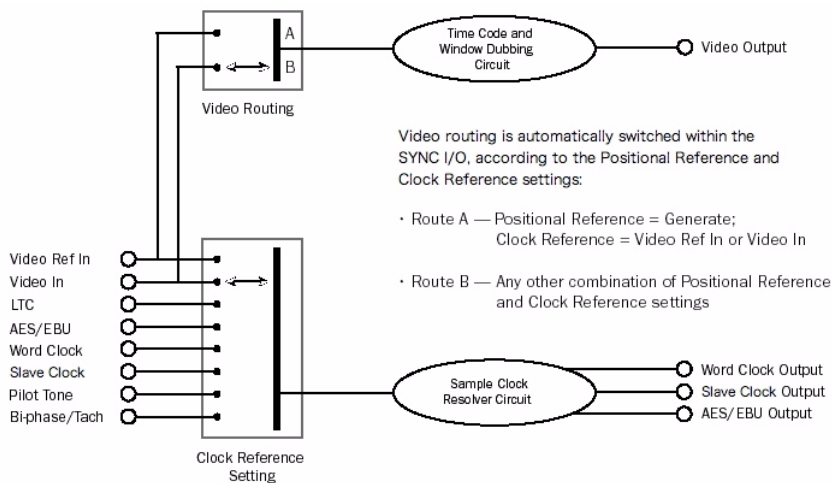

Figure 3. Video Input Flow diagram
Unlike selecting a video input to use for Clock Reference, input selection for VITC and character generator functions follows a simple rule. This rule is explained in the following sections and in Figure 3 on page 70.
**Video Ref** If the Clock Reference is one of the two video inputs, *and* the Positional Reference is Generate, then VITC and character generator functions are applied to the video arriving at the Video Ref input connector. This helps you avoid re-patching video cables whenever you want to stripe a videotape with your reference black-burst or color bars, along with internally generated time addresses for VITC (and/or LTC, and/or CG dub window). In Figure 3 on page 70, this scenario is identical to “Route A.”
**Video In** For all other combinations of Clock Reference and Positional Reference, VITC and character generator functions are applied to the video signal arriving at the Video In connector. In this way, the SYNC peripheral can read VITC from your videotape, or add VITC with or without character generation (window burn) while dubbing to a second VCR. In Figure 3 on page 70, this scenario is identical to “Route B.”